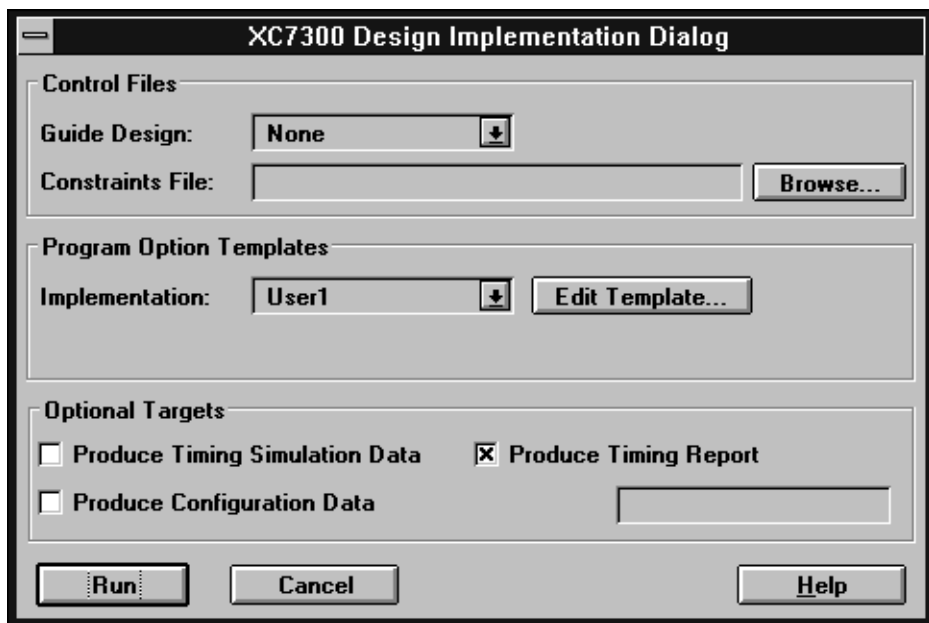

Figure 1-9 XC7300 Design Implementation Dialog Box
1. Select the Implement command from the Design menu. The XC7300 Design Implementation Dialog box appears as shown in Figure 1-9.